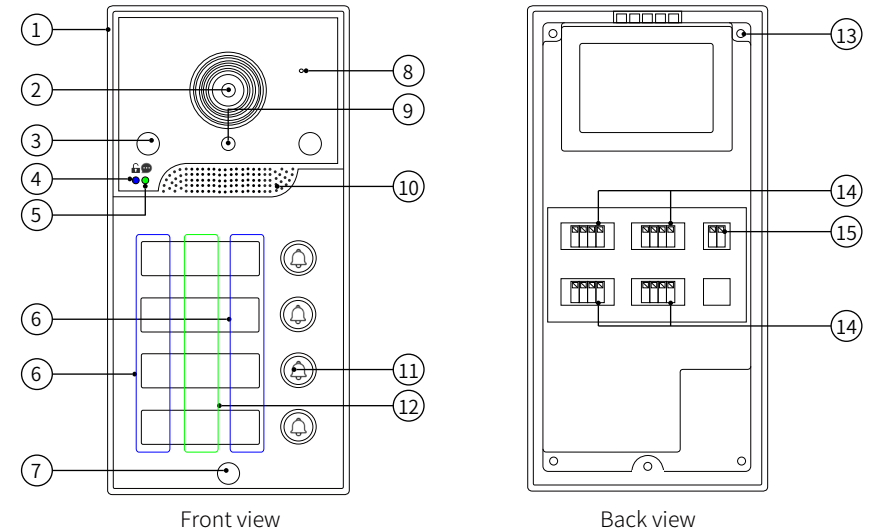

Figure 1
3. The product runs normally and blue standby indicator on the front of the outdoor unit remains on after power supply is connected (Figure 1 ⑥);
4. Press any call button, so the red and green call/monitoring status indicator is lit up (Figure 1 ⑤, Figure 1 ⑫), and the display is also lit up meanwhile, hang up after talkback, and then call/monitoring indicator is off;
5. Press unlocking key of indoor unit, “” so green unlocking status indicator of outdoor device flashes for one time (Figure 1 ④);